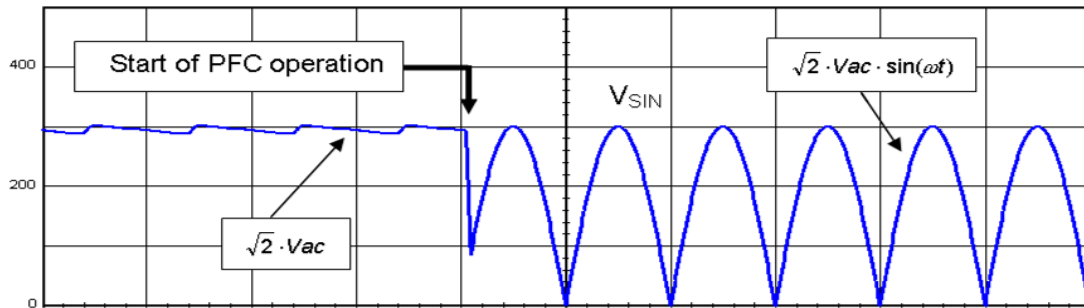

Figure 23. Typical Input Voltage of a PFC Stage
- ♦ Before operation, the PFC stage is off and the input bridge acts as a peak detector (refer to Figure 23). As a consequence, the input voltage is approximately flat and nearly equates the ac line amplitude:  $v_{in}(t) = \sqrt{2} \cdot V_{in,rms}$ , where  $V_{in,rms}$  is the rms voltage of the line. Hence, the voltage applied to the BO pin (pin 7) is:  $V_{BO} = \sqrt{2} \cdot V_{in,rms} \cdot \frac{R_{bo2}}{R_{bo1} + R_{bo2}}$ .